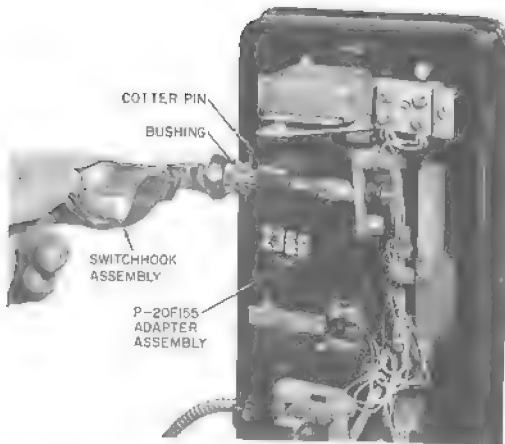
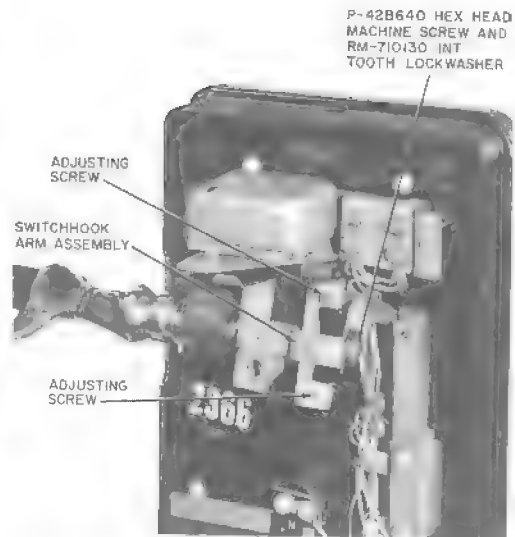
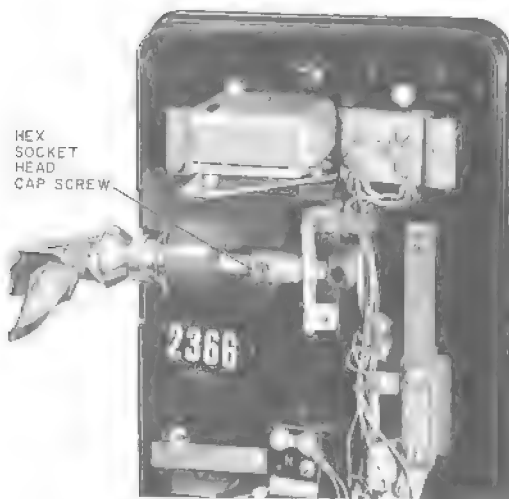

Fig. 26—Installation of Adapter Assembly and Switchhook Assembly
Fig. 28—Installation of Switchhook Arm Assembly
Fig. 27—Method of Securing Adapter to Switchhook Assembly
- (3) Secure bushing on shaft with a cotter pin (Fig. 26).
- (4) Slide the P-20F155 adapter assembly into right bearing (Fig. 26).
- (5) Slide switchhook assembly with bushing installed through left bearing to mate with adapter assembly.
- (6) Secure adapter to shaft with hex socket head cap screw (Fig. 27) which is furnished with kit.
- (7) Install P-297872 spring washers as required to reduce excessive end play. End play of switchhook shaft shall not exceed 1/32-inch.
- (8) Place switchhook arm assembly (Fig. 28) retained in 2.32 over switchhook shaft and secure to end of adapter shaft with lockwasher and hex head machine screw. Install tension spring.
2.37 Adjust switchhook travel with the two adjusting screws (Fig. 28) to meet contact spring pile up requirements and check switchhook operation per Section 506-310-100.